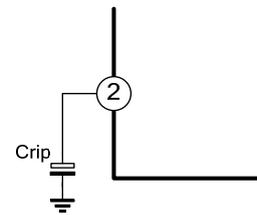

Figure 3
3. Ripple Rejection (Figure 3)
Adding Crip, to the ripple terminal 2 as shown in Figure 3, the ripple rejection ratio is improved from -25dB to -45dB .